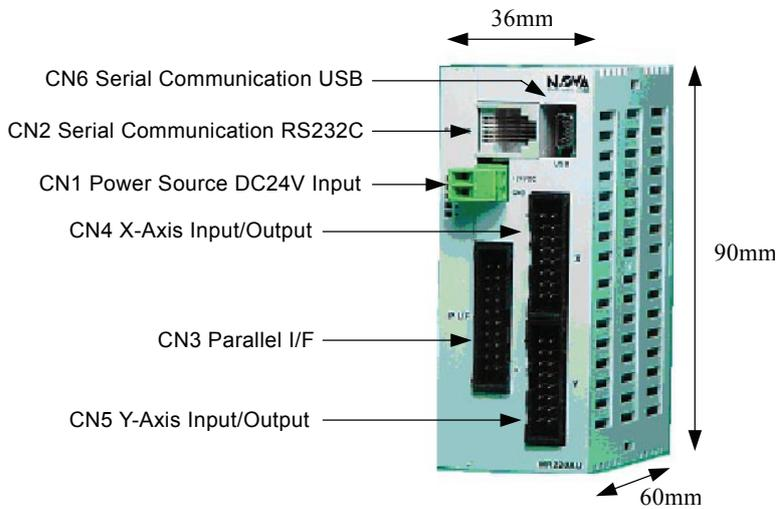

Fig.1.2 MR220AU Appearance
Fig.1.2 shows the appearance of the MR220AU, its package dimensions are 90mm (H)×36mm (W)×60mm (D). Input/output connectors are placed on front panel and rear panel is equipped with DIN rail installing hook.